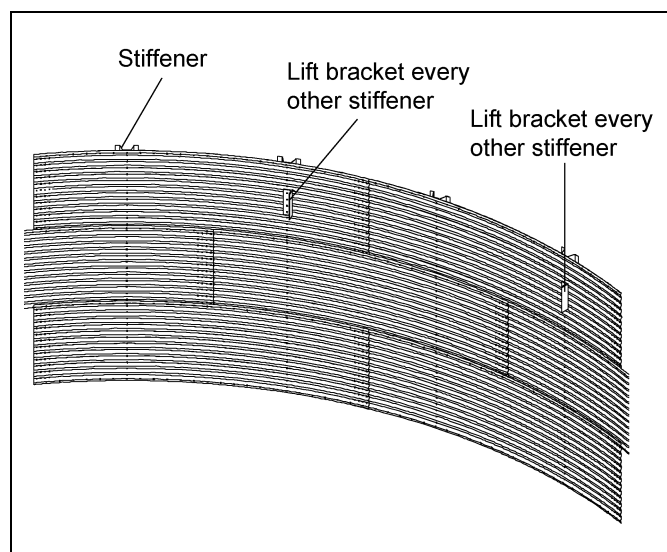
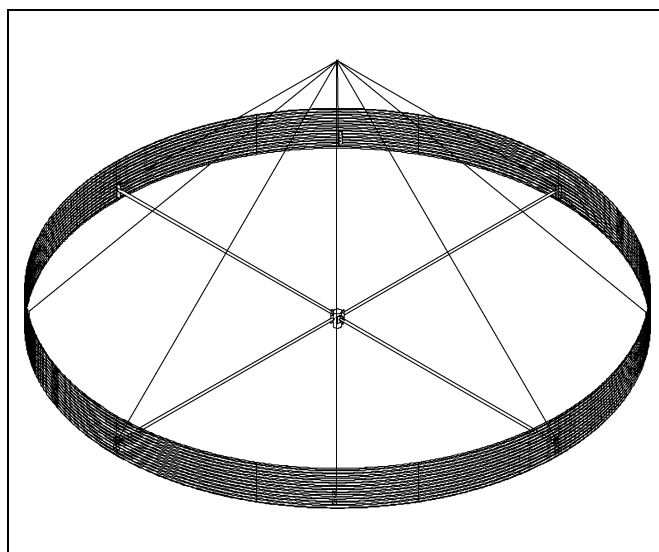

Figure 16A
Figure 16B
- a. Lifting brackets should be attached to the stiffeners. At least one bracket per sidewall sheet should be used. These would typically be attached in the third ring from the bottom of the tank. Brackets should attach to a minimum of four (4) bolts through the stiffener. Attach cables to the lift brackets and to the crane hook, which has been lowered through the center ring opening. Cables should be sized to handle the entire weight of the bin. Make all lift cables of equal length before the bin is lifted. (See Figure 16A and Figure 16B.)